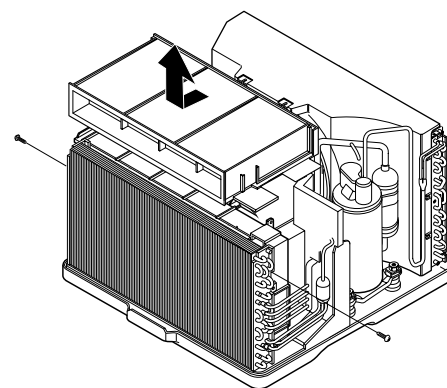

Figure 24
7. Re-install the components by referring to notes. (See Figure 24)